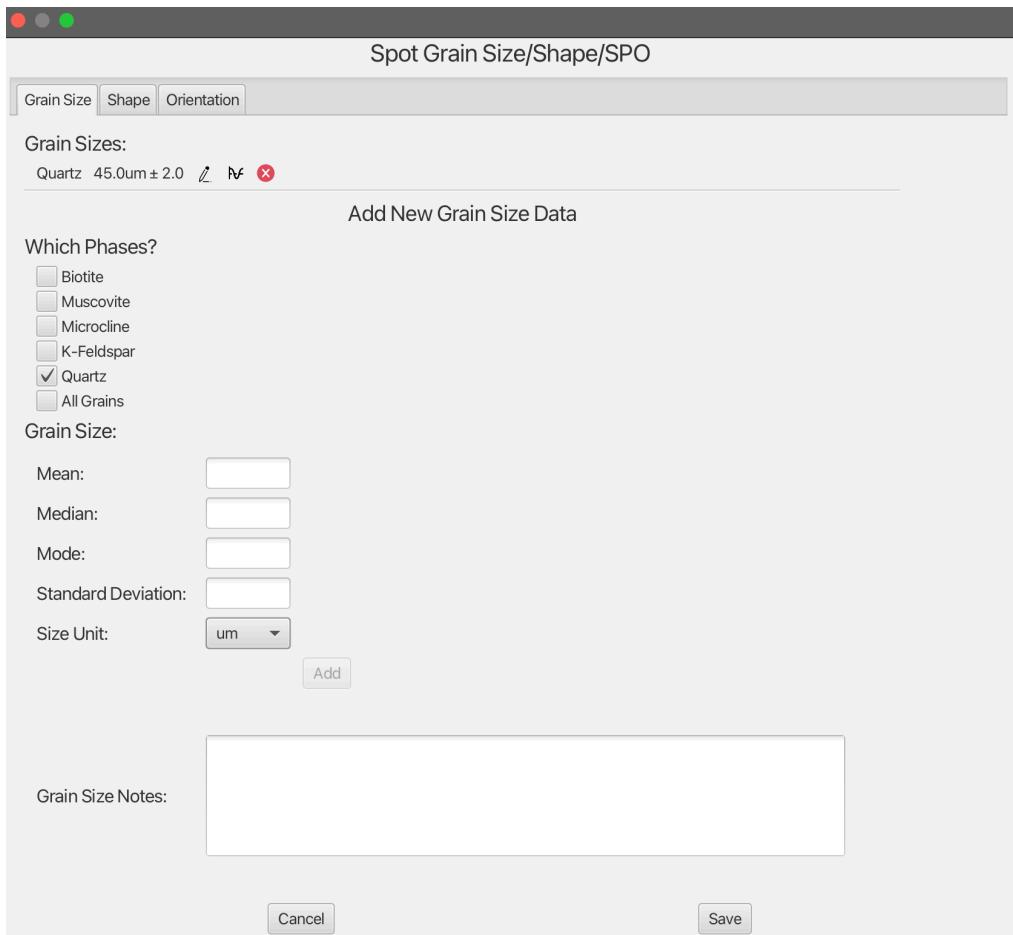

Figure 24: Grain Size data modal with fields for entering quantitative grain size information.
- **Grain Size:** Enter modal or observed grain sizes. (See Figure 24.)